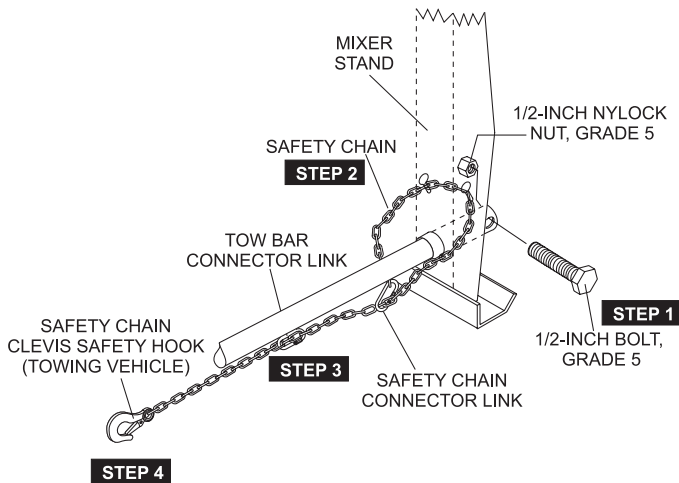

Figure 5. Mixer Safety Chain and Coupler
4. Attach safety chains as shown in Figure 5. Remember to **cross** the safety chains underneath the towpole of the mixer.
Reference Figure 5 for the installation of the **safety chain**.